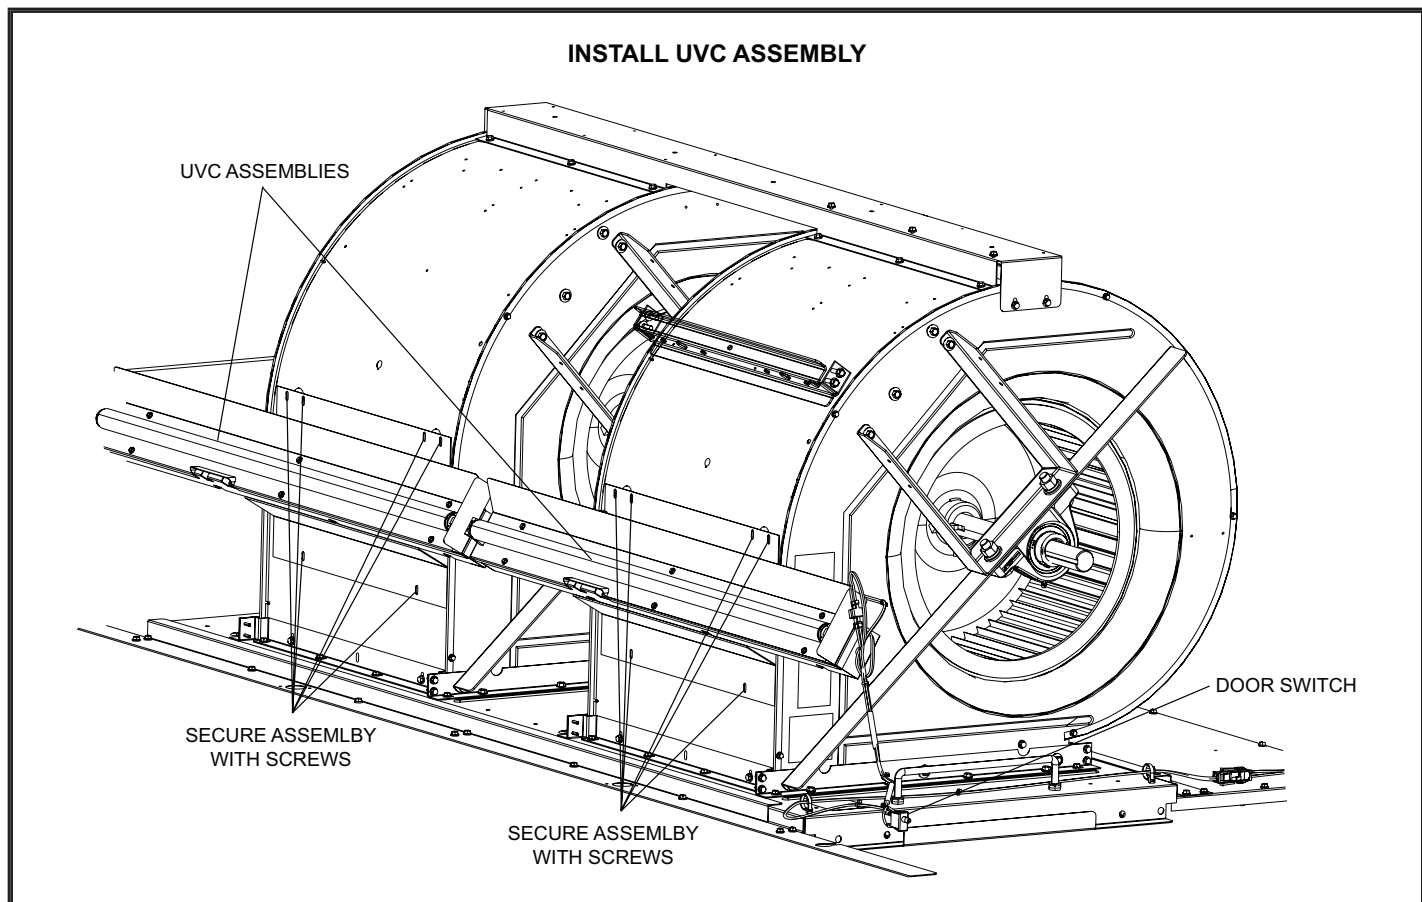
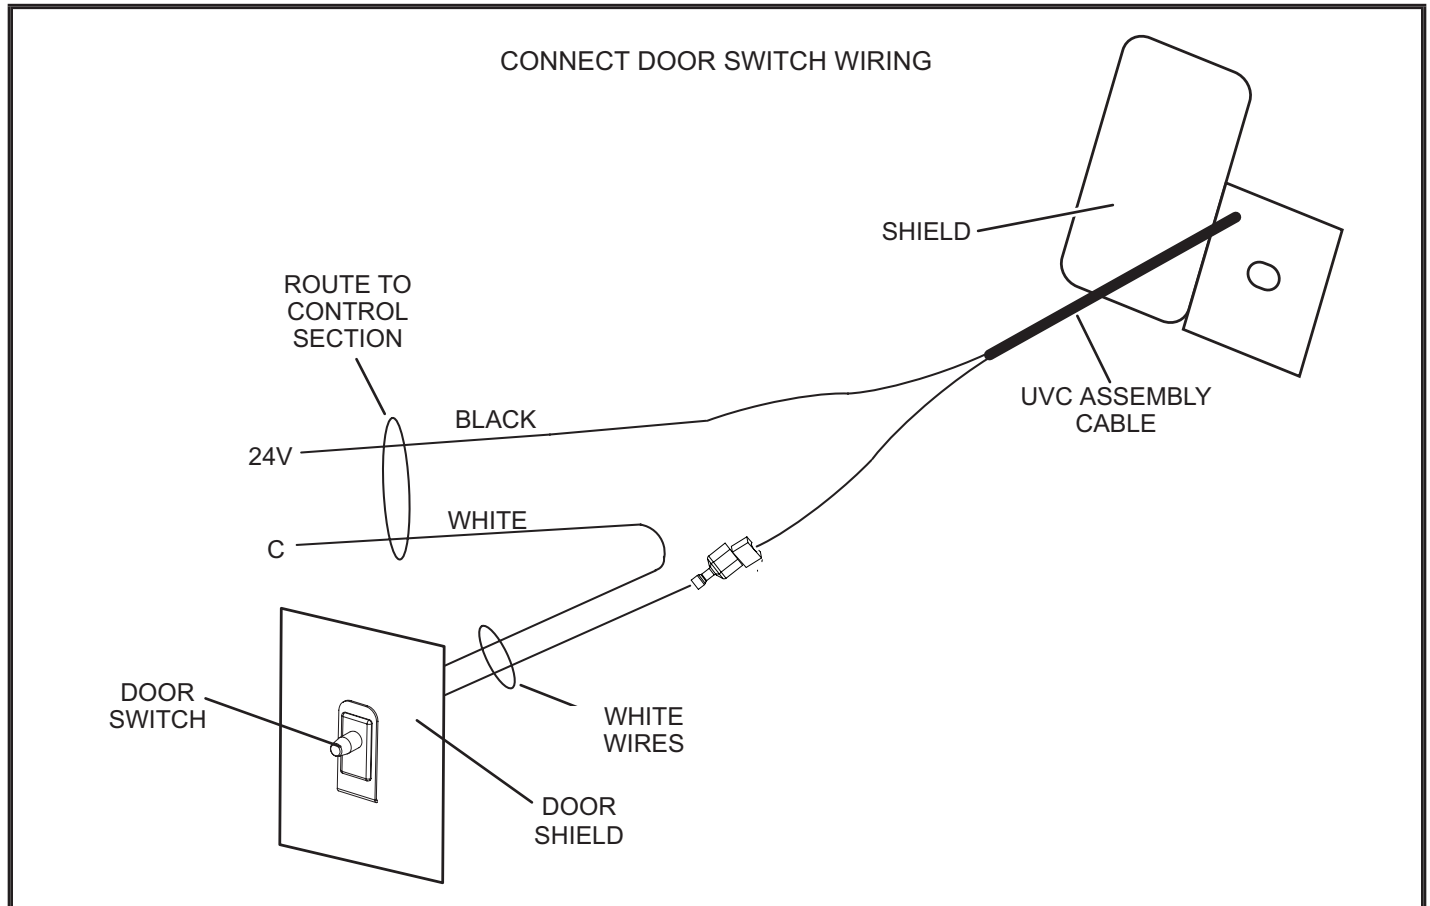

FIGURE 2
FIGURE 3
- 4 - Pull out the blower deck to reveal both blower wrappers. Carefully place the UVC assembly on the blower wrapper. Line up the mounting holes on the UVC assembly with the mounting holes on the blower wrapper. See FIGURE 2. Use the #10 screws provided to secure the UVC assembly in place.
Install switch on front of UVC door shield as shown in FIGURE 2. Wire as shown in FIGURE 3.